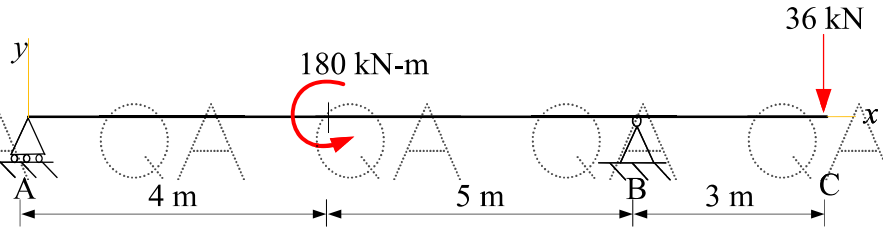

Fig.2
4. Analyse and construct the shear-force and bending moment diagrams for the beam shown in Fig.2. Label all significant points on each diagram and identify the maximum moments along with their respective locations. Clearly differentiate straight-line and curved portions of the diagrams. [10]